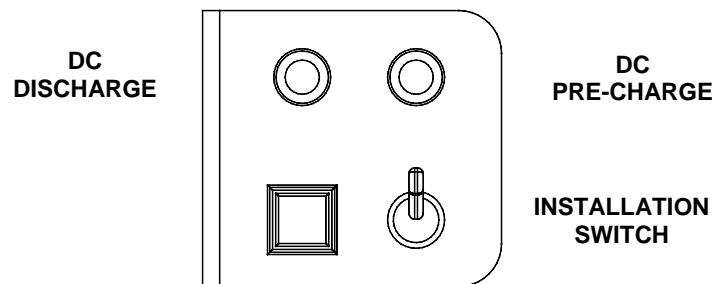

Figure 7.1 DC Pre-charge Switch, DC Discharge Switch & Installation Switch
3. Locate the DC Pre-charge Switch, see figure 7.1; press it for five seconds; then, install the Main DC battery fuse. If a large flash occurs, the batteries are not connected properly. Call service immediately.
4. Locate the DC Discharge Switch; see figure 7.1; press it for 10 seconds.